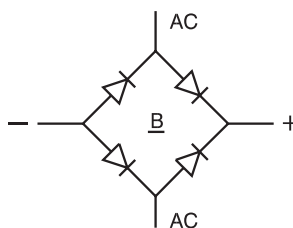

FIGURE 2
2. Surge current waveform per Figure 3 and derate per Figure 2.